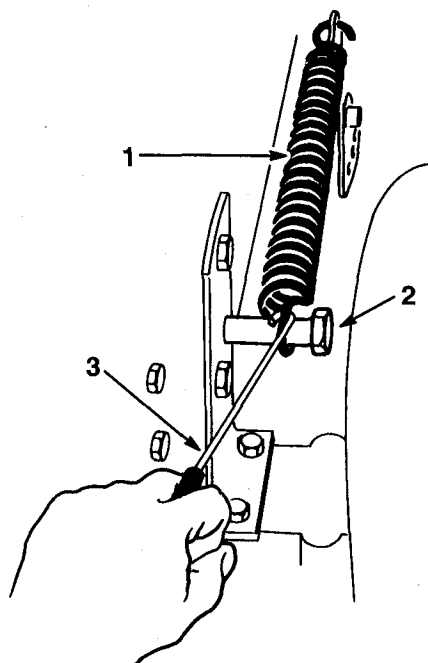

Figure 39
4. Remove the height-of-cut lift assist spring from the retaining bolt (Fig. 39), using the spring tool provided with the machine. The spring is between the frame and the right rear wheel.